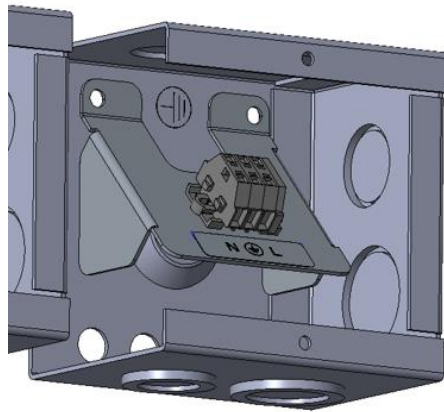

Fig. 48 Power supply terminal board inside the junction box
- Insert the external power supply cables into the cable gland and fasten them to the terminal board inside the junction box (Figure 48).